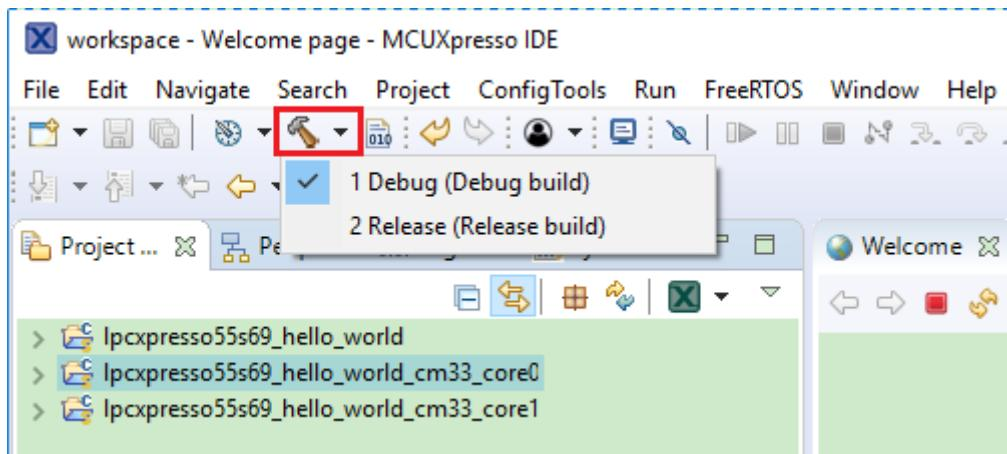

Figure 16. Selection of the build target in MCUXpresso IDE
- Now, two projects should be imported into the workspace. To start building the multicore application, highlight the lpcxpresso55s69_hello_world_cm33_core0 project (multicore master project) in the Project Explorer. Then choose the appropriate build target, **Debug** or **Release**, by clicking the downward facing arrow next to the hammer icon, as shown in Figure 16. For this example, select **Debug**.